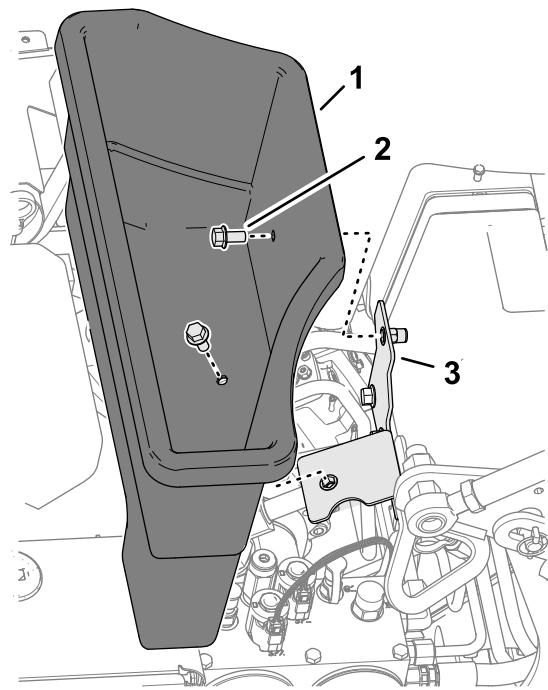

Figure 126
- Remove the 2 flange head bolts that secure the storage bin to the bin bracket (Figure 126).